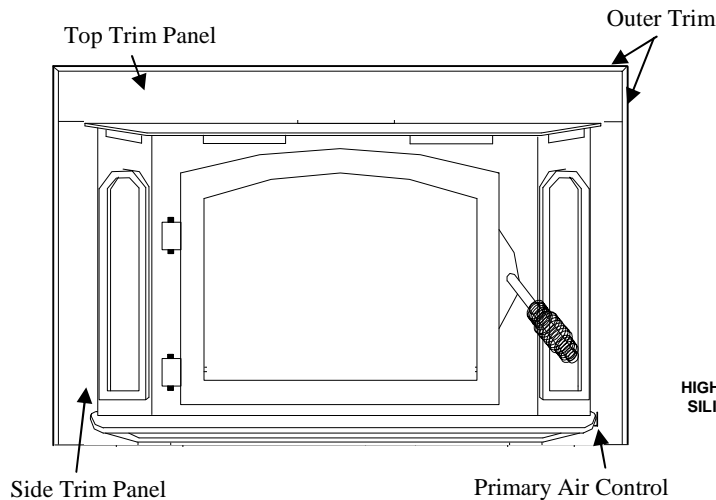

FIGURE 4
9. Obtain brass trim kit provided with insert kit and slip over top and sides of trim panels. Top ends of brass may need to be trimmed to fit (See Figure 4, Page 10).
Primary Air Control: The primary air intake draft control is located at right bottom side of hearth. It is operated by moving handle **out** to open (to allow air into firebox) or **in** (to control or close off) air into firebox. (See Figure 4).